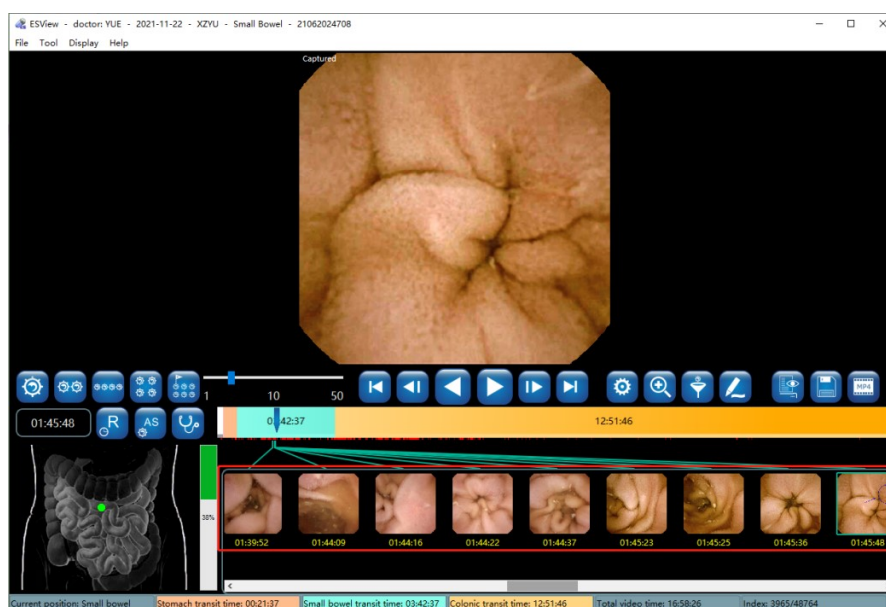

Figure 4-28: Thumbnail Display Area
1. Thumbnails of the tagged and captured images are displayed in the thumbnail area, as shown in Figure 4-28.